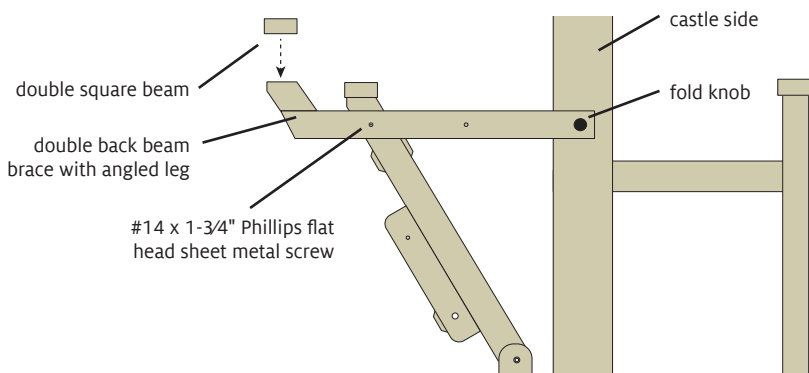

FIGURE 3: INSTALL DOUBLE BACK BEAM BRACES AND DOUBLE SQUARE BEAM
7. Remove the original back beam braces by detaching the fold knobs and the nylon washers, then removing the screws connecting them to the rear legs. Orient the double back beam braces with the angled legs on the inner side and pointing upward (Figure 3). Using a #14 x 1-3/4" Phillips flat head sheet metal screw, attach each brace to the rear leg. Remove the nylon washers from the old fold knobs and install them on the new fold knobs. Insert the new knobs through the braces and screw them into the castle sides.
8. Place the double square beam on the angled legs (Figure 3).